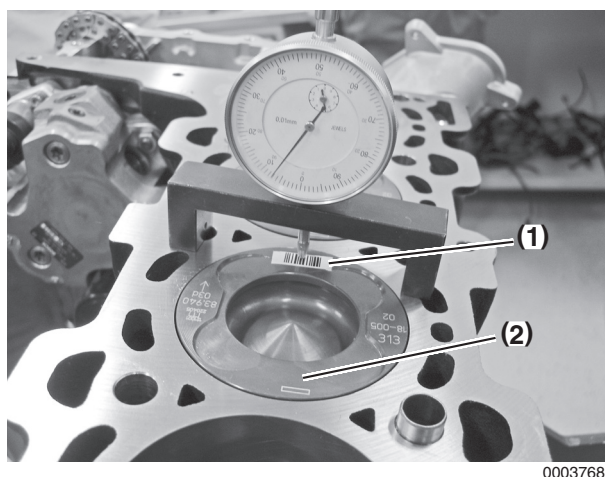

Figure 5-33
5. Slide fixture and indicator over cleaned area of piston (**Figure 5-33, (1)**). Rotate the crankshaft to determine the highest point of piston travel and record the measurement. Repeat the procedure in a second area (**Figure 5-33, (2)**).